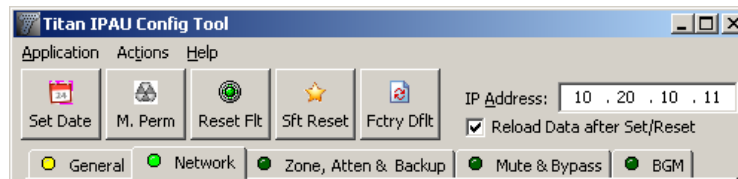

Figure 3-1: IPAU Config Tool Detail
The interface consists of a menu bar, buttons, and other controls located at the top of the window. There are five (5) tabs that can be selected to configure different groups of parameters within the frame. Each tab has a small LED-style indicator to indicate the status of the information on the tab. Examples of all three can be seen in Figure 3-1.